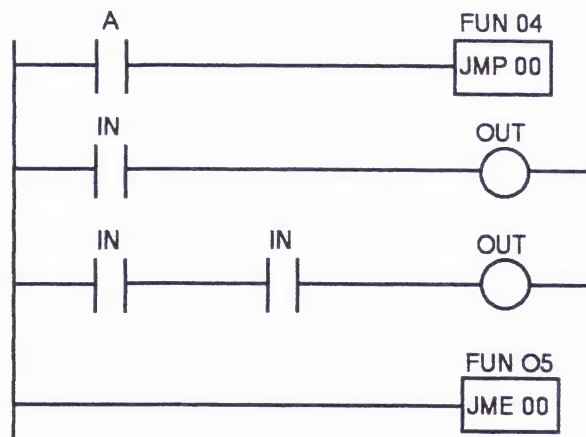

Figure 4.17 Jump and Jump End
In Figure 4.17 if Input A equals a "1" (ON) condition, the program contents between JMP and JME are scanned and updated. If however, Input A equals a "0" (OFF) condition, no I/O update will be performed.
It is important to understand what the PLC does when a JMP 00 or JMP 01-08 is addressed. Referring back to Figure 4.17, if a JMP 00 is used, the PLC is commanded to jump a group of logic (between JMP & JME) and will bypass the I/O update portion of logic which is part of the scan. The rest of the program is still scanned.